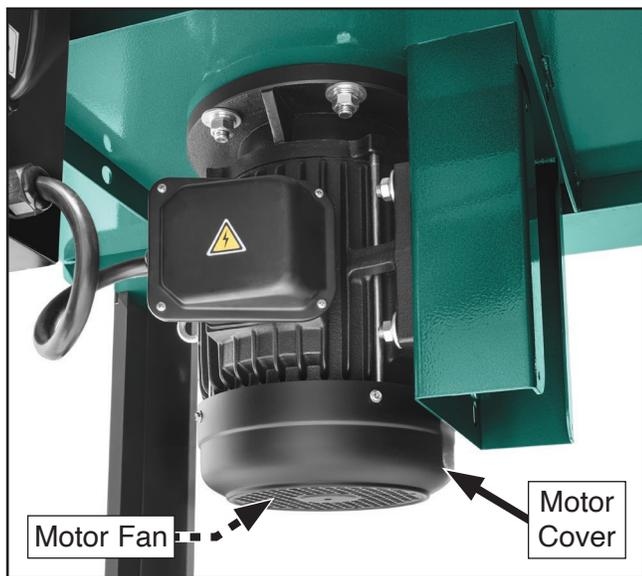

Figure 68. Location of motor components.
5. Observe motor fan through motor cover (see **Figure 68**).